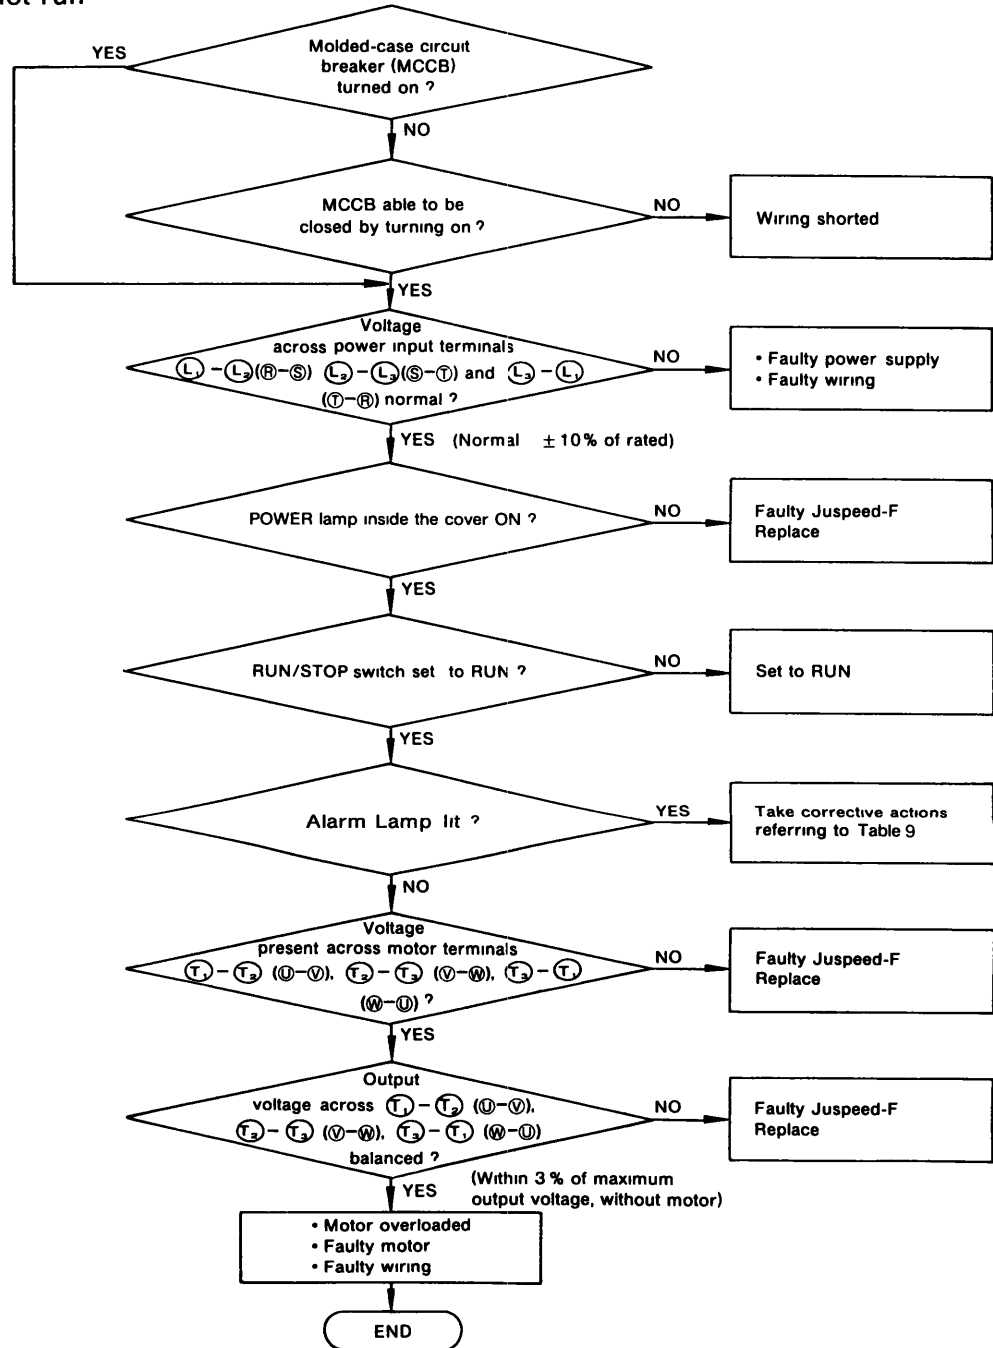

Fig. 12 Motor will not Run
Connect the AC main circuit terminals L1 (R) , L2 (S) , L3 (T) , T1 (U) , T2 (V) , and T3 (W) by a common wire as shown in Fig. 12. After that, measure the insulation resistance between the common wire and ground with a megger. If reading is above $1\text{M}\Omega$, it is considered satisfactory. Never measure the insulation resistance of the control circuit.
If Juspeed-F malfunctions, find the cause and take the corrective actions by following the flowcharts given in Figs. 12 to Fig. 14.